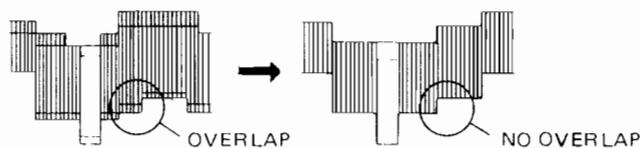

Fig. 2-12 DEMOD Output Waveform
3. Adjust VR2A1 (LIMITER BAL) on PCB-Y/C so that the double waveform coersides between SYNC TIP & WHITE PEAK as shown in Fig. 2-12.